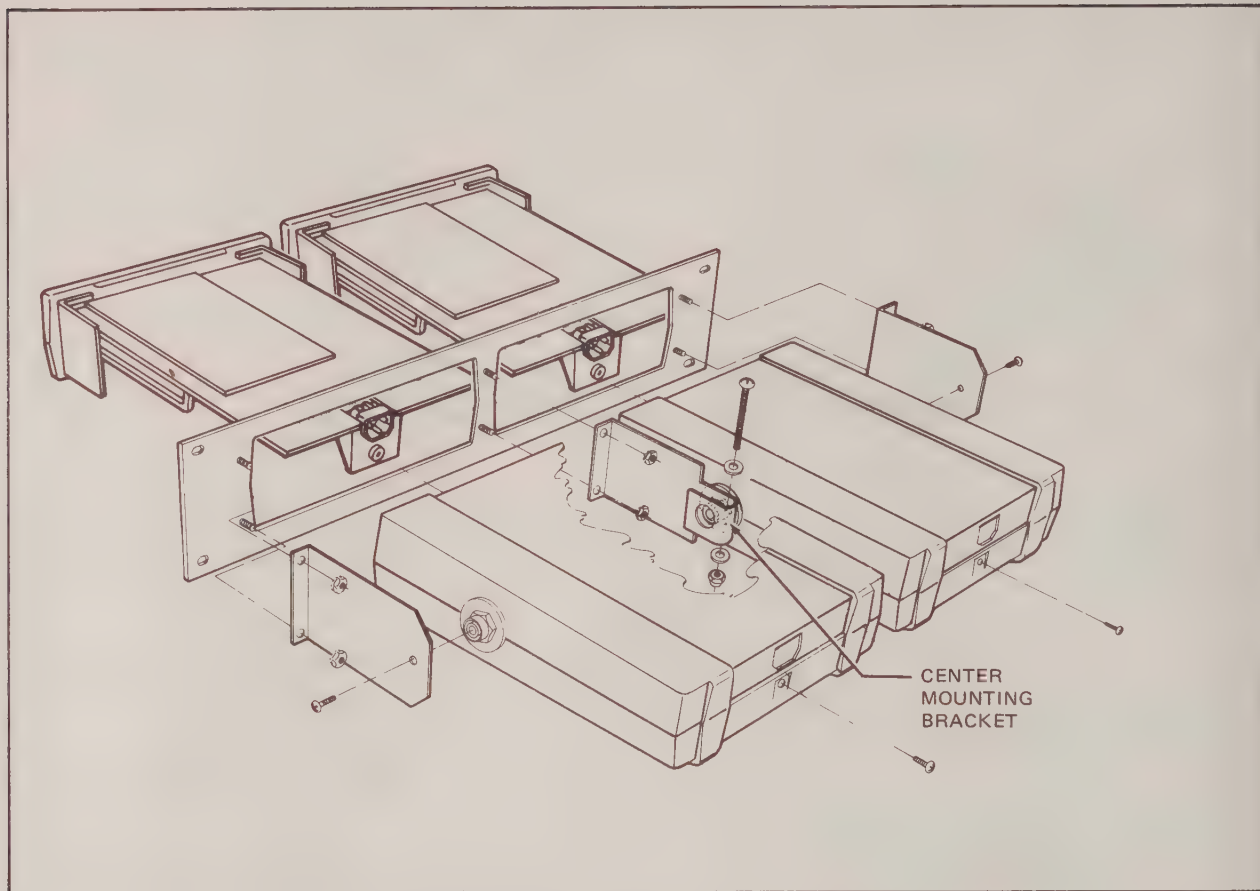

Figure 600-4. Rack Mounting Kit, Side-by-Side Mounting
- 3. Install the center mounting bracket, as shown in Figure 600-4 and secure it to the mounting panel, using the nuts provided.